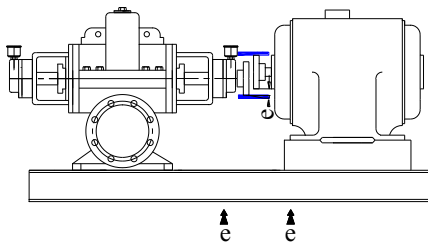
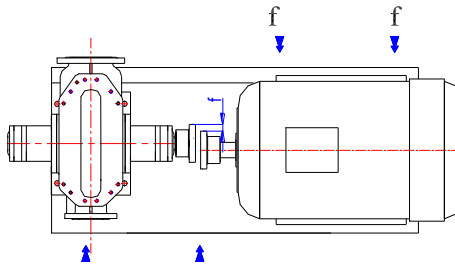

Figure 4: Parallel axis misalignment in vertical plane and its correction
Figure 6: Parallel axis misalignment in horizontal plane and its correction
1. Paralel axis misalignment (Figure4 - Figure 6)